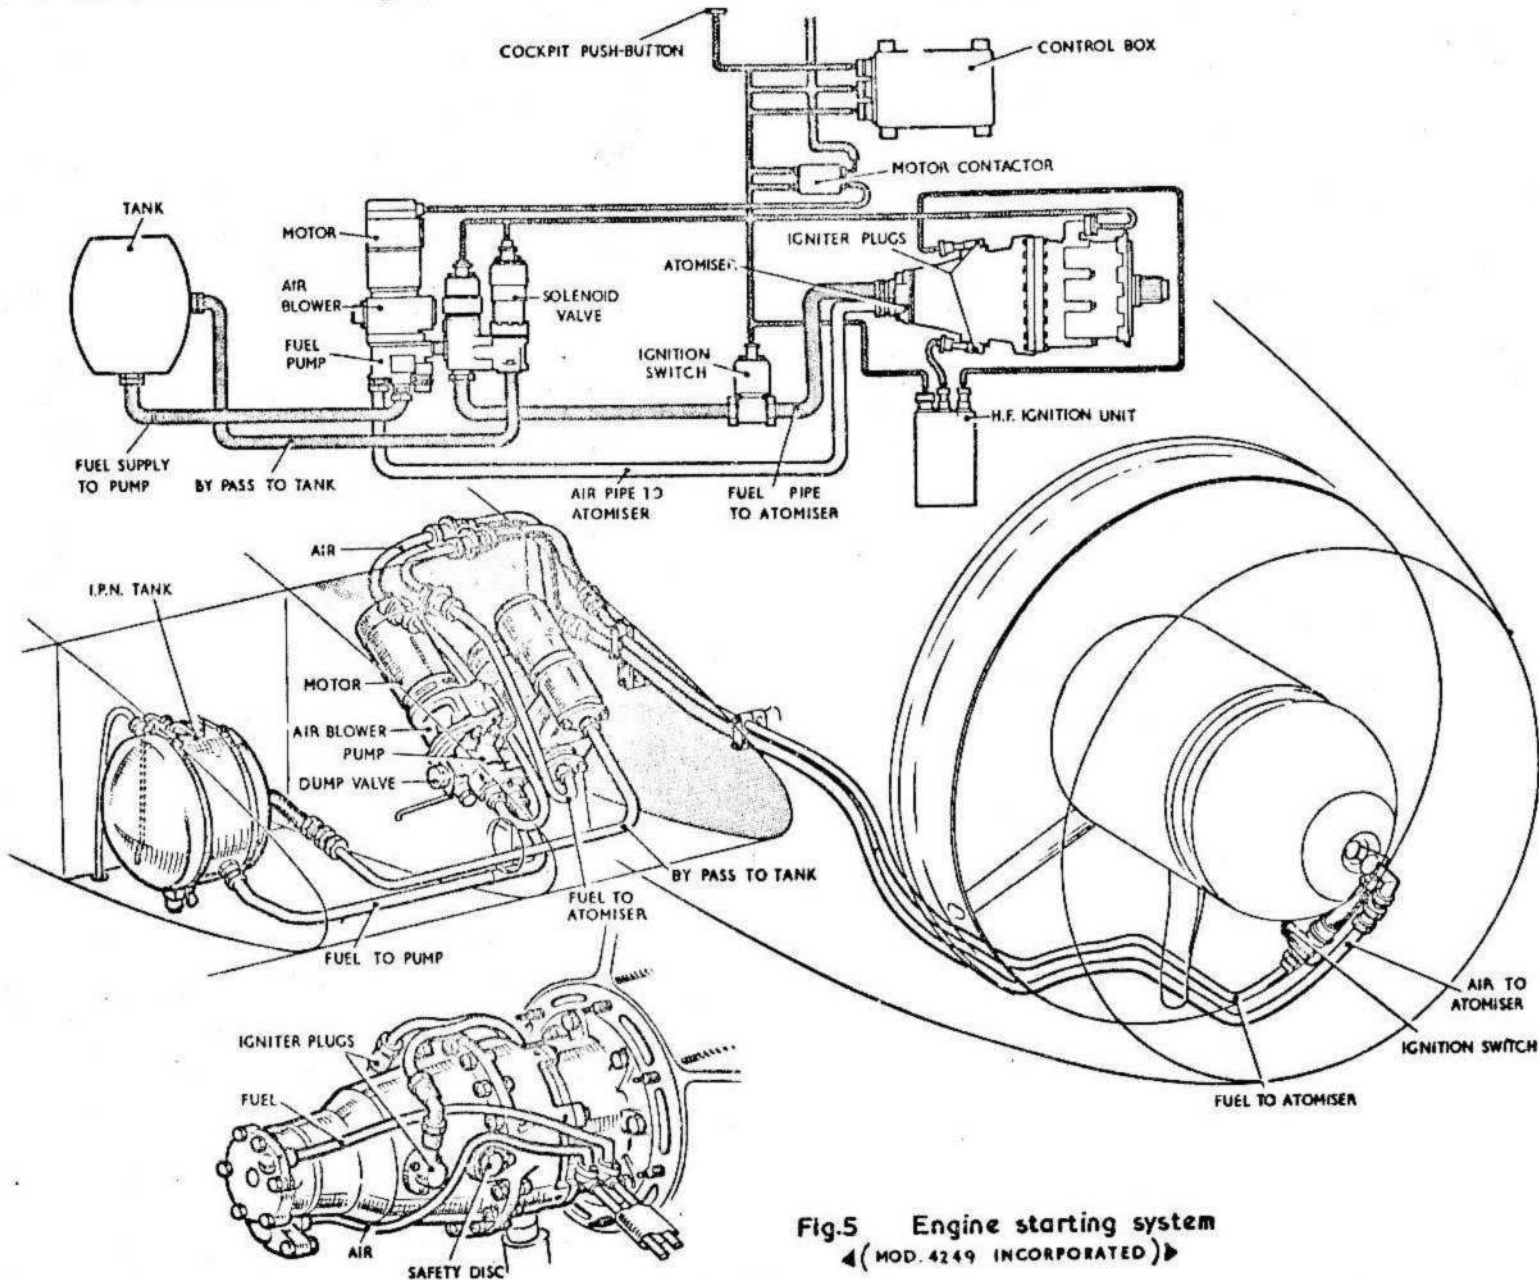

Fig.5 Engine starting system
*Engine starting system (fig. 5)*